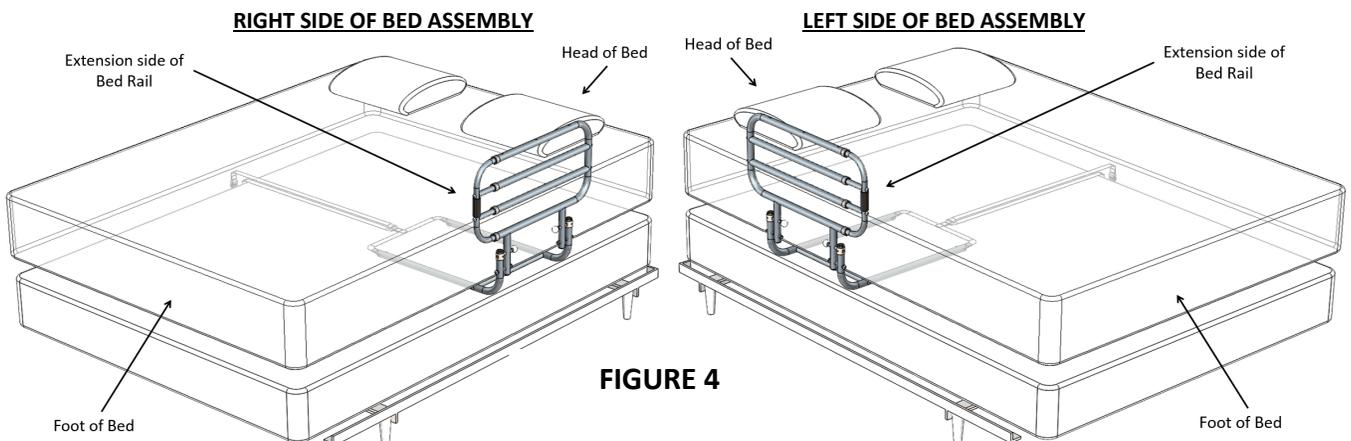

FIGURE 4
4. **NOTE:** There are two different directions the bed rail can be installed. The EXTENSION SIDE OF THE BED RAIL must be closest to the FOOT OF THE BED as shown in Figure 4.